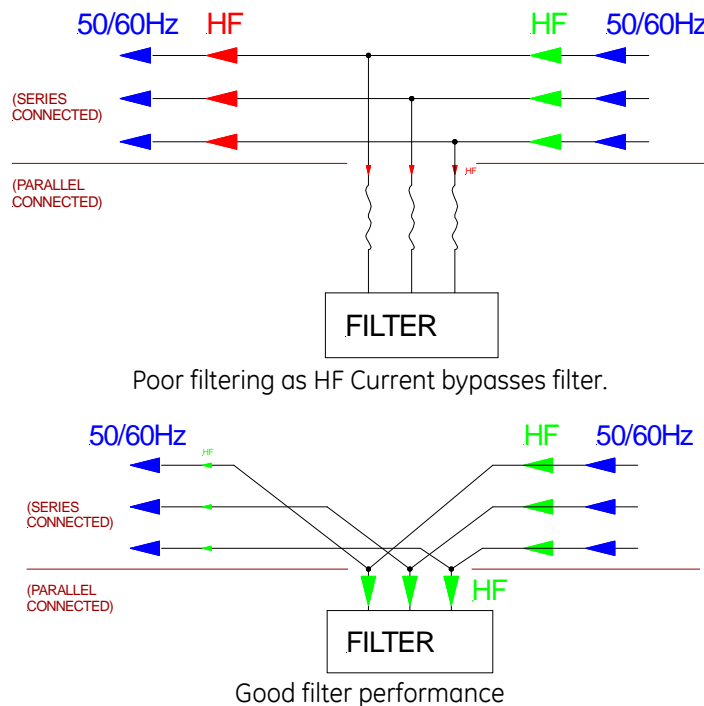

Figure 3-4 Cable Routing Effect On Filter Performance
- Run the series current path through the filter, see Figure 3-4. Any parallel connections must use low inductance techniques such as flat and wide busbars, short trefoil cables or parallel cables.
Filters are designed to absorb high frequency currents. They must be positioned to have low inductance connections to the source of the noise and to ensure that the hf current does not bypass the filter. The effect of cable routing is shown in Figure 3-4.